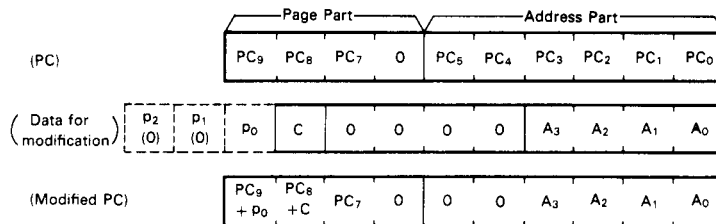

Figure 9 Modification of Program Counter by TBR Instruction
TBR modifies the PC in the same way as the pattern instruction (P) does. The method for modification is shown in Figure 9.